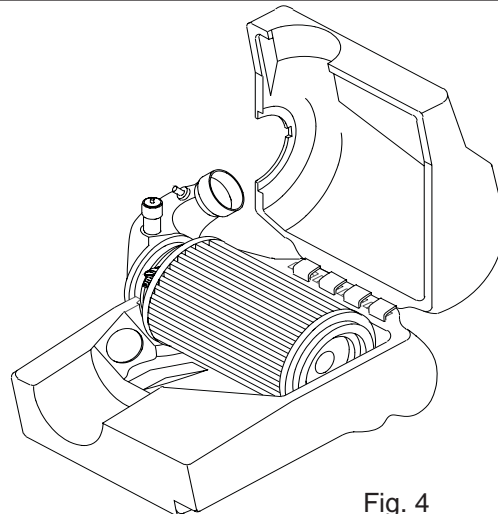

Fig. 4
6. Re-install the airbox lid. (Fig. 4)